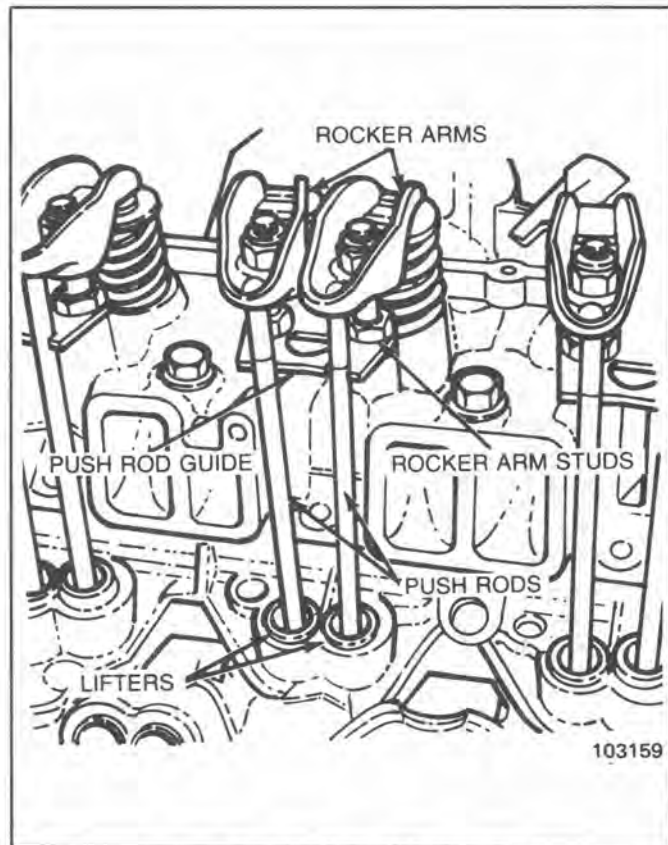

Fig. 11 Valve Mechanism
**VALVE MECHANISM***Figure 11***↔ Remove or Disconnect**